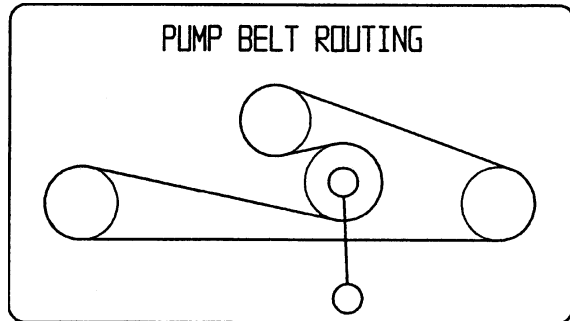

Figure 56
1. Pull spring loaded idler down and remove traction belt from the engine and hydro pump pulleys (Fig. 56). Remove belt between pulleys.
2. Install new belt around engine and hydro pump pulleys (Fig. 56).
3. Pull spring loaded idler down and align below traction belt. Release pressure on spring loaded idler (Fig. 56).